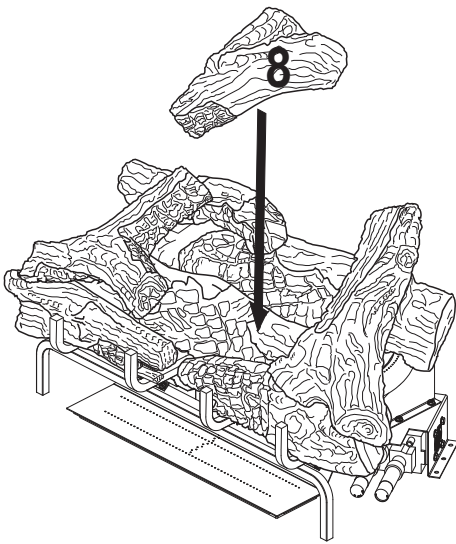

Figure 35 - Installing Log # 8
8. Match the round hole on the bottom of the center crossover log (#8) with the metal pin on the top of the right crossover log. Rest the front of the center crossover log on top of the front right log and against the grate. See **Figure 35, Page 21**.